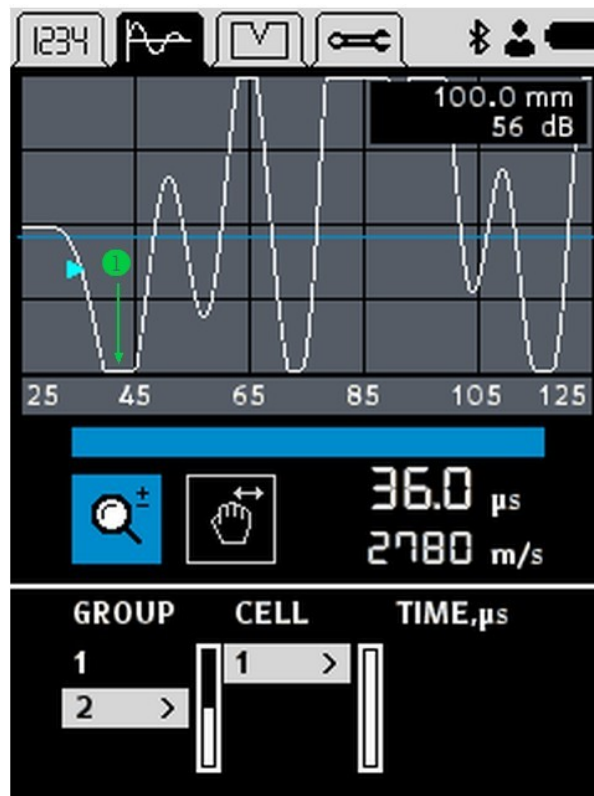

Figure 19: Saturation example
The A1410 PULSAR allows the operator to switch off auto search depth. This tells the algorithm to stop searching for the waveform events 28 after the time given by the search depth in microseconds. If auto search depth = off, the A1410 PULSAR indicates the search depth time with a vertical line ①, see Figure 19. Adjust a search depth time so that the first negative peak ② lies before line ① and there are no other peaks in that time interval.